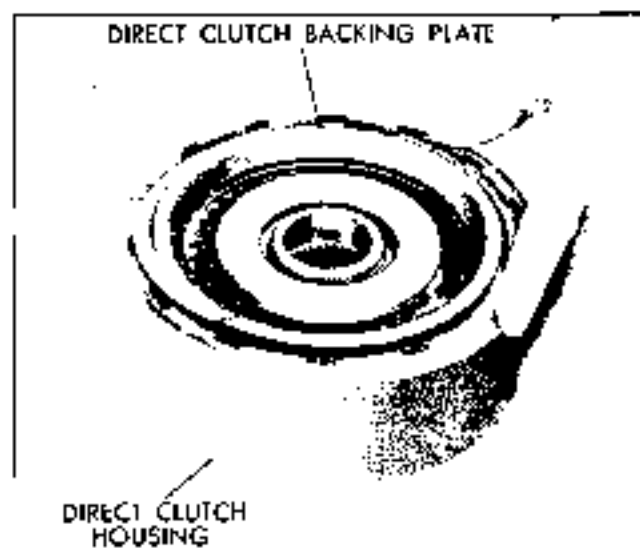

Fig. 7E-93 Removing Direct Clutch Backing Plate Snap Ring
12. Place forward clutch housing on pump delivery sleeve and air check clutch operation (Fig. 7E-86).